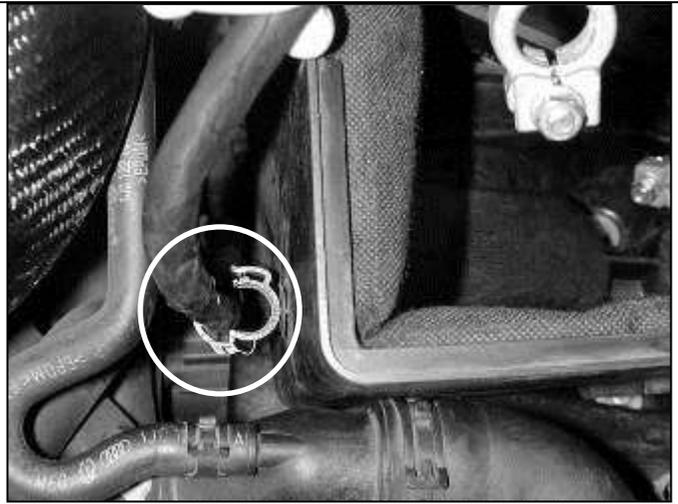

Fig. 6
- f. Open the plastic clip that secures the positive battery lead to the engine side of the plastic battery box. (Fig. 6) Remove the plastic battery box from the vehicle.